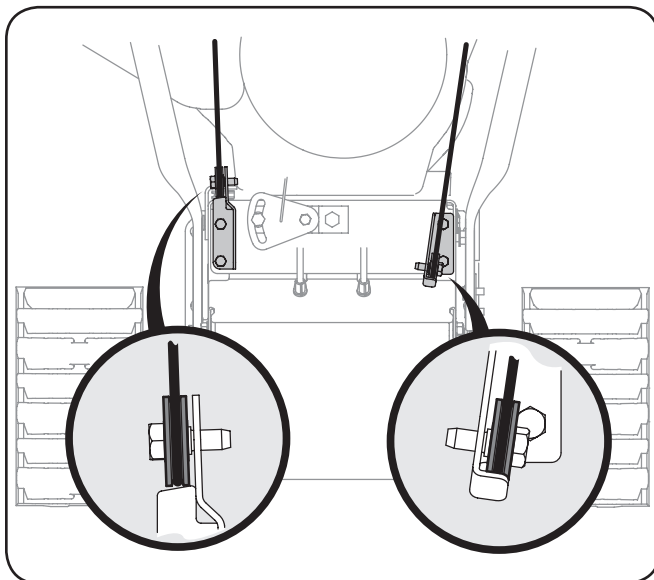
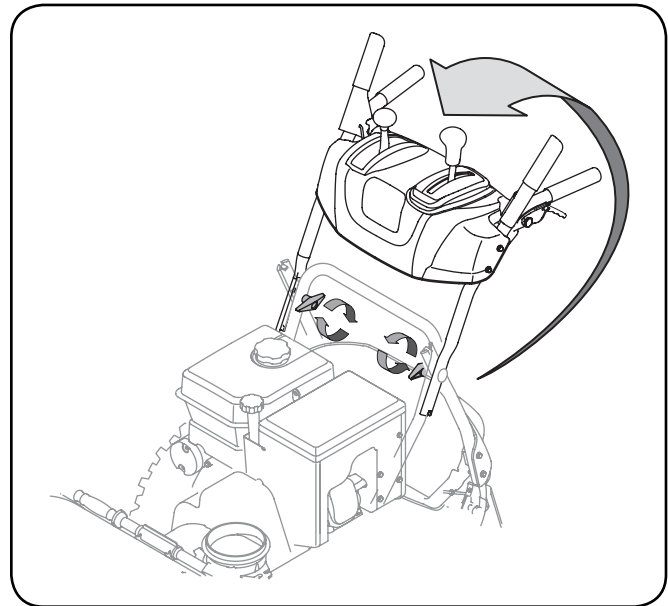

Figure 3-1
Figure 3-2
- Observe the lower rear area of the snow thrower to be sure both cables are aligned with roller guides. See Figure 3-1. Pull up on the upper handle, align the upper handle with the lower handle. See Figure 3-2.